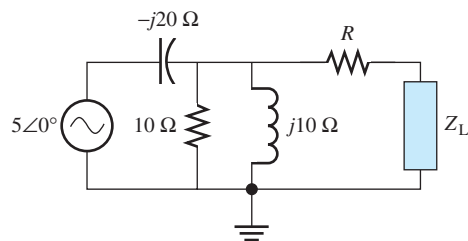

FIGURE P6.70 Circuit for Problem 6.70.
- 6.70** (H) Consider the circuit shown in Figure P6.70, if the load, Z_L , is the combination of resistance, inductance, and capacitance, how can R be adjusted to make the maximum average power delivered to the load less than 0.01 W?